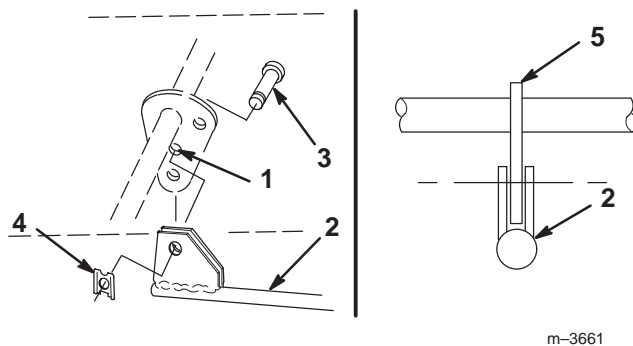

Figure 30
9. Disconnect the snowthrower lift rod from the attachment lift plate by removing the clevis clip and clevis pin (Fig. 30).